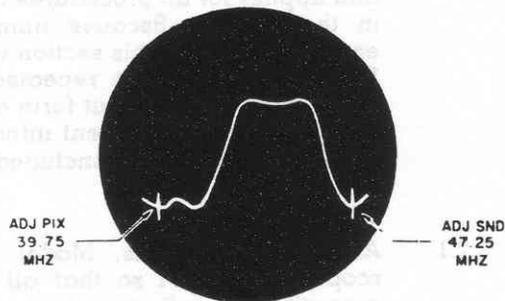
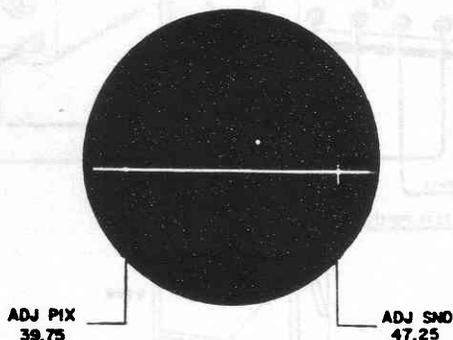

Figure 5.4 Receiver I-F Response Between ADJ PIX and ADJ SND Markers
Figure 5.3 Centering Sweep Range by Use of ADJ PIX and ADJ SND Markers
5.3.3 The HORIZ SWEEP switch of the 415 can be used so that the direction of increasing frequencies can be selected as desired. Usually, increasing frequency from left to right across the scope trace is preferred as shown in Figure 5.4.
5.3.2 Turn on the ADJ PIX (39.75 MHz) marker and the ADJ SND (47.25 MHz) marker. Use the CENTER FREQUENCY control to center the sweep pattern as shown in Figure 5.3. With this setting the entire i-f response will be included in this range (Figure 5.4).
- 6.1.7 Set SWEEP WIDTH at maximum. Turn on ADJ PIX (39.75) and ADJ SND (47.25) markers and use MARKER AMPLITUDE control to set marker amplitude as desired. Using the CENTER FREQUENCY adjustment, center the sweep on the oscilloscope screen as in Figure 5.3.